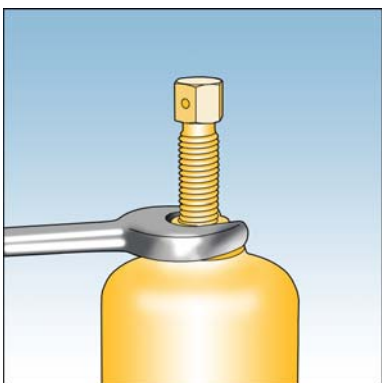

Fig. 2
- 2) Loosen locknut (19mm A/F) on spring adjusting stem. See Fig. 2.